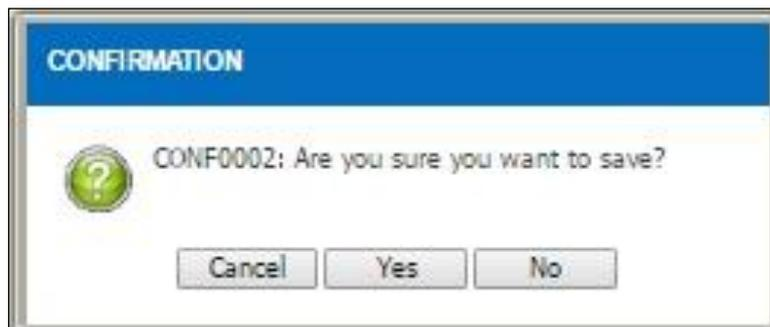

Figure 4.1.5-7 Alert Message
- Alert message will be displayed after the transaction is saved as per Figure 4.1.5-7
- Click on the  button to confirm the saved transaction and the item information will be displayed as Figure 4.1.5-8